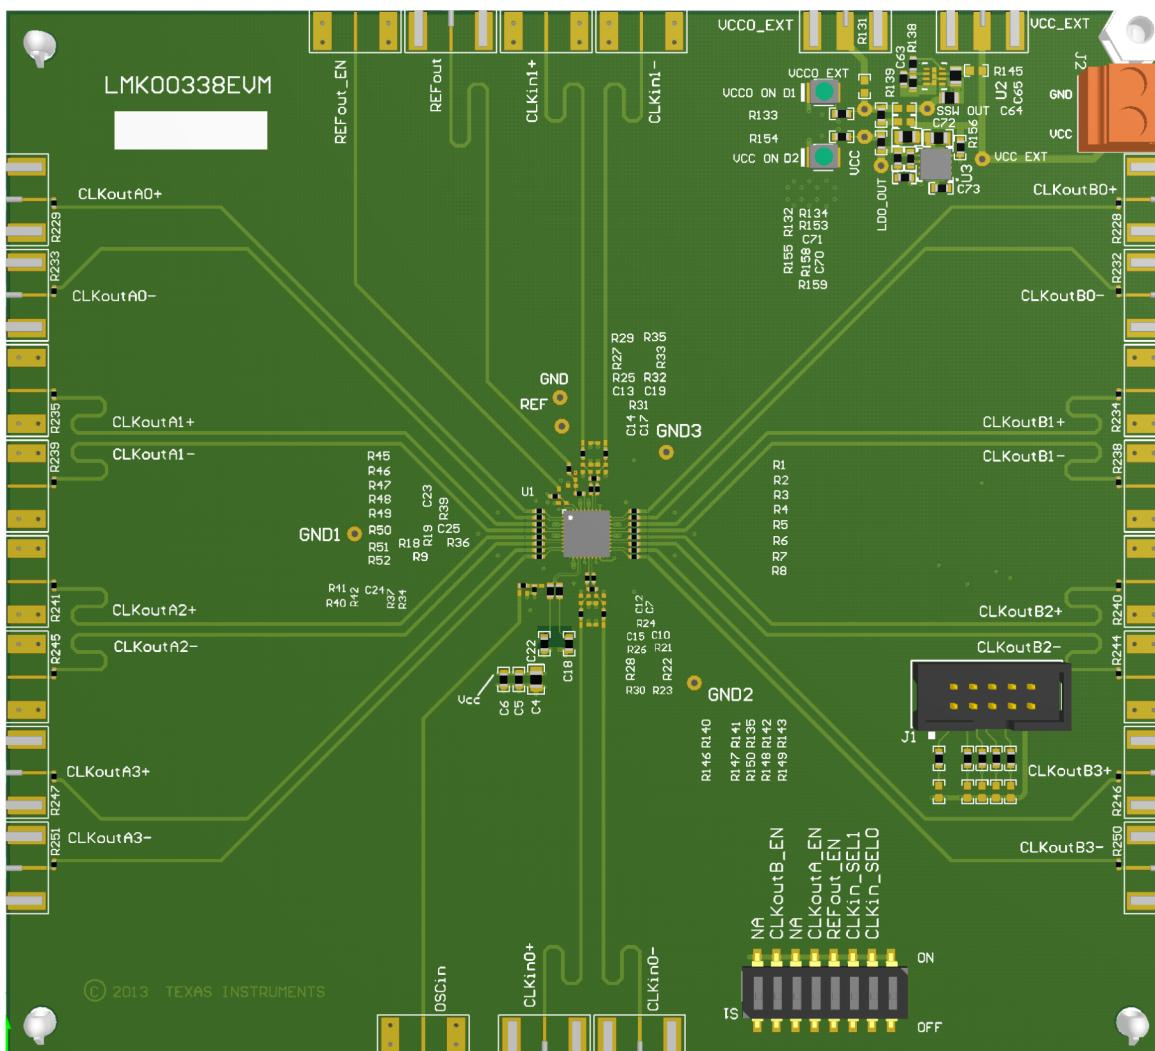

Figure 22. LMK00334 Layout Example
- For DC-coupled operation of an HCSL driver, terminate with $50\ \Omega$ to ground near the driver output as shown in Figure 22.